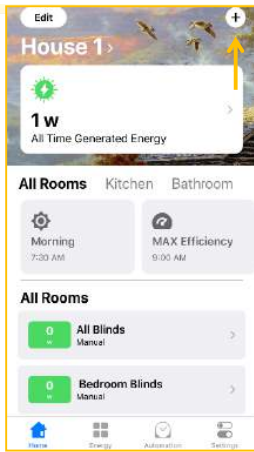

Figure 24
10.7.1. Click **+** in the top right corner to start (Fig. 24).